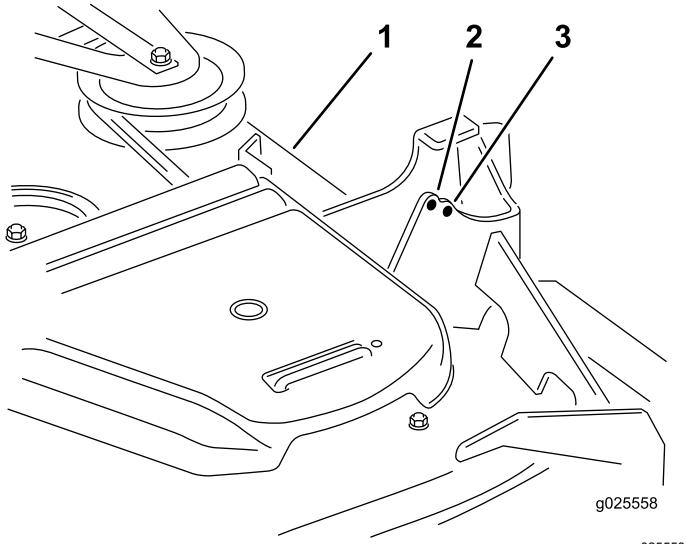

Figure 87
**Note: Rear Discharge Machines Only:** The mower deck is attached in the front holes at the factory (Figure 87). If needed, use the back holes for further adjustment when leveling the mower deck.